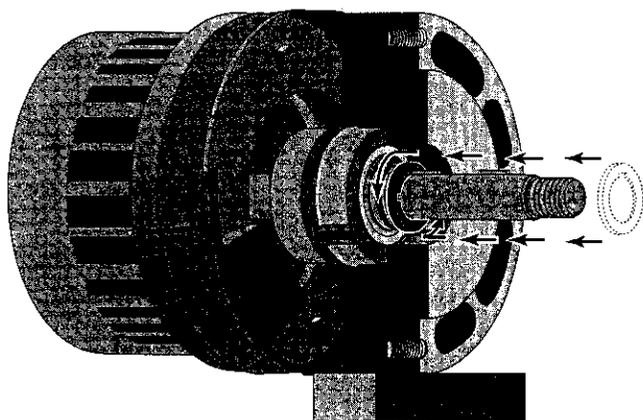

Figure 28
- Push the shaft seal and seal spring onto the shaft, after making sure that the seal faces and shaft are clean. Take care that the shaft shoulder does not damage the carbon seal face. Follow the seal spring with the spring holder; compress the spring and give the spring holder a quarter turn to lock it under the first shaft key (see Figure 28).